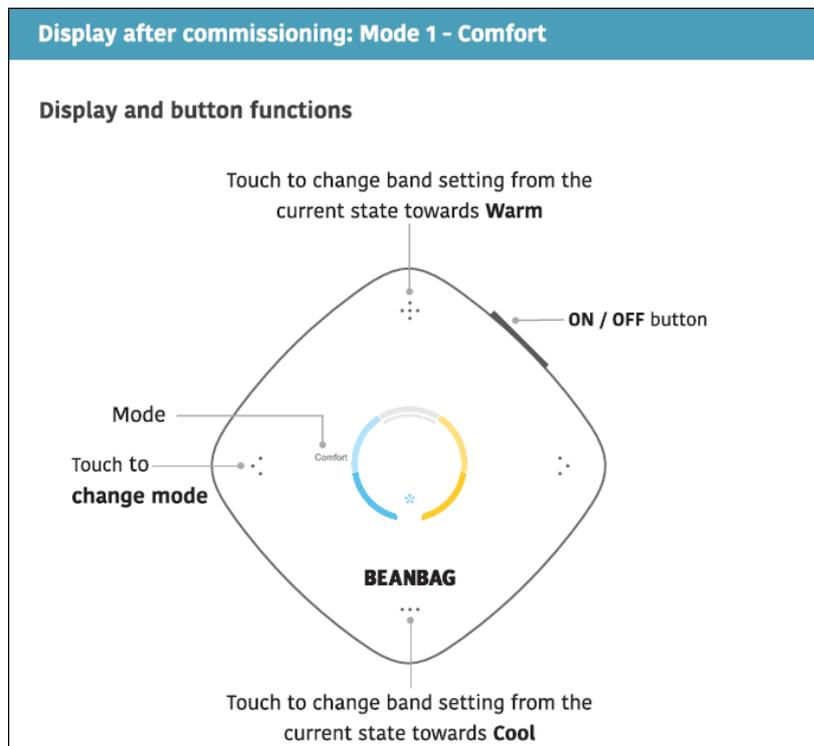

Figure 6: Thermostat 600 series display and user interface- Comfort mode
- **Comfort mode** - to deliver optimal thermal comfort through five band settings - **Cool, Slightly cool, Comfortable, Slightly warm** and **Warm**. After commissioning, the device will start in the default **Comfort mode** with **Comfortable** band. If you wish to change the band setting, refer Figure 6. Whichever band you choose, the Thermostat automatically adjusts the AC to keep you comfortable at all times.